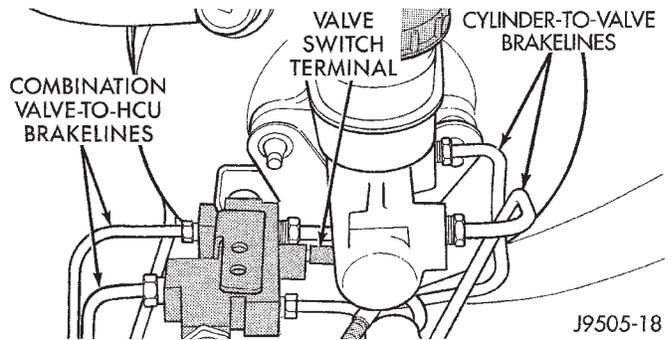
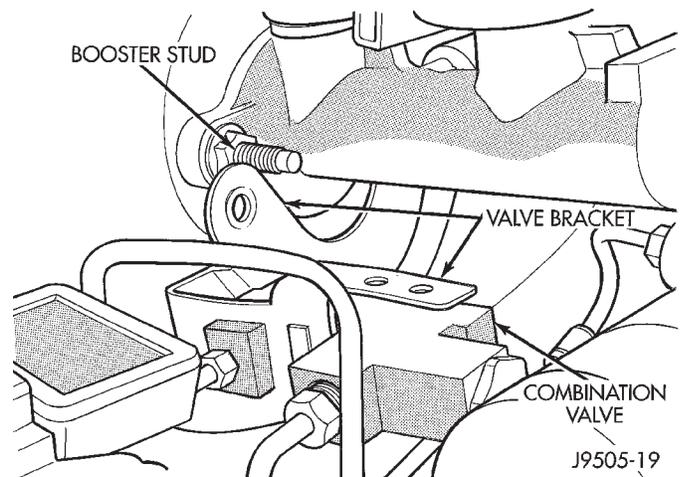

Fig. 21 Combination Valve Brake Lines
Fig. 22 Combination Valve Bracket
(1) Remove brake lines that connect master cylinder to combination valve (Fig. 21).
(2) Disconnect brake lines that connect combination valve to HCU.
(3) Disconnect wire from combination valve switch terminal. Be careful when separating wire connector as lock tabs are easily damaged if not fully disengaged.
(4) Remove nuts attaching combination valve bracket to booster studs and valve bracket off booster studs (Fig. 22).